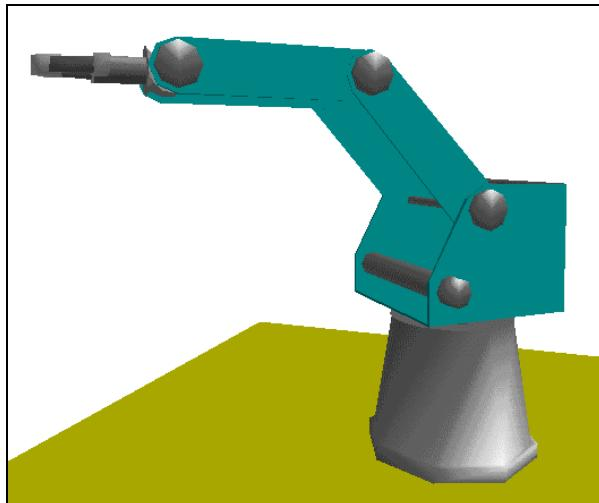

Figure 3-4: Position #3
- 7** Moving only the shoulder axis, bring the robot arm to the position shown in Figure 3-4, and record this as position #3.